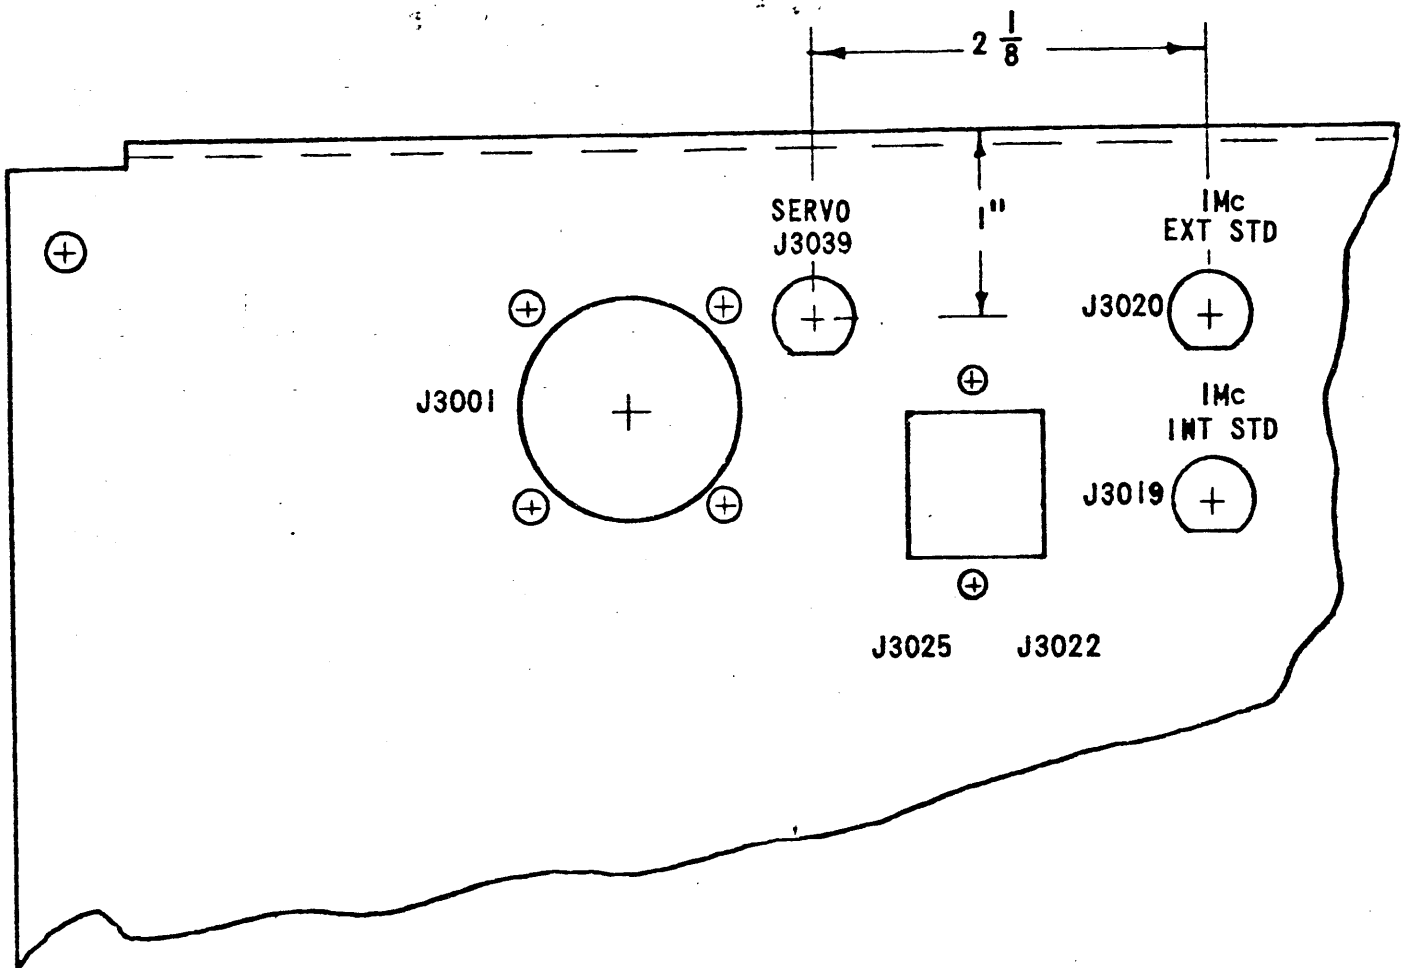

FIGURE 7
4. Next, with a center punch, ascribe a mark as indicated in Figure 7. Drill through with a 1/8" drill bit. Then, with item 45, establish a 7/16" diameter hole.
Insert BNC connector, Item 31, and fasten to chassis. Run a jumper wire (item 46) from Pin N of J3001 to center connection of new BNC connector. Apply rubber stamp, item 44, marked "SERVO", and J3039 as illustrated on Figure 7.